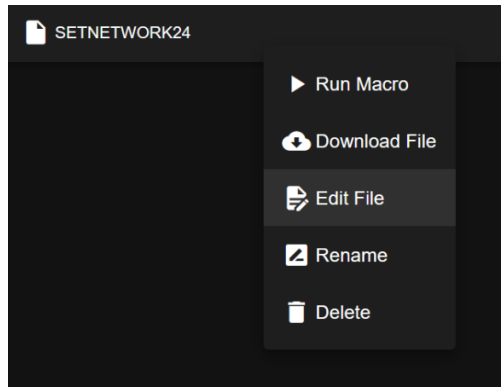

Figure 7: Right click on existing file opens up the drop down menu.
3. Open the macro's context menu using R-mouse-click and select **Edit File** (Fig. 7).
- (d) R-click and select **Run Macro** (Fig. 7).